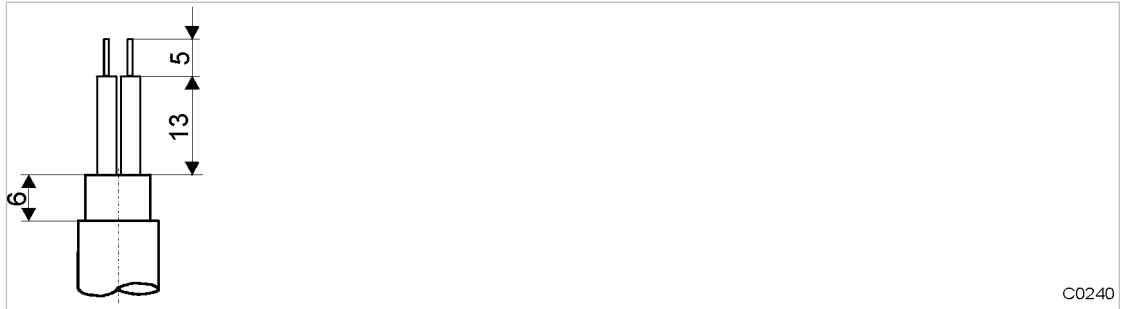

Fig. 7 Stripping back the Profibus cable
1. Strip back the Profibus cable as shown in fig. 7.
2. Connect the green core to the green terminal (A) in the Profibus plug.
3. Connect the red core to the red terminal (B) in the Profibus plug.